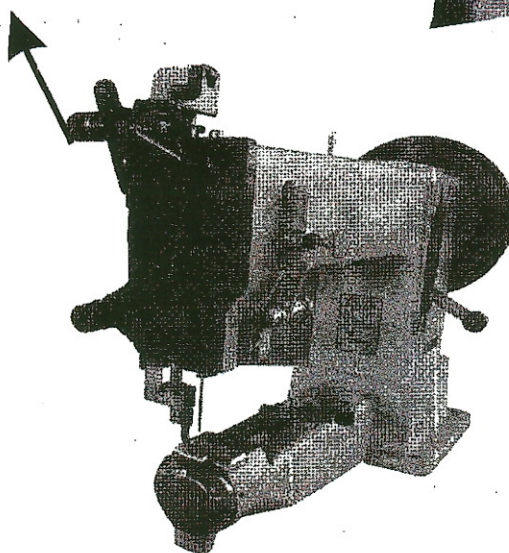

Fig.5
- From behind through the hole in thread take-up lever, as show in Fig. 5.